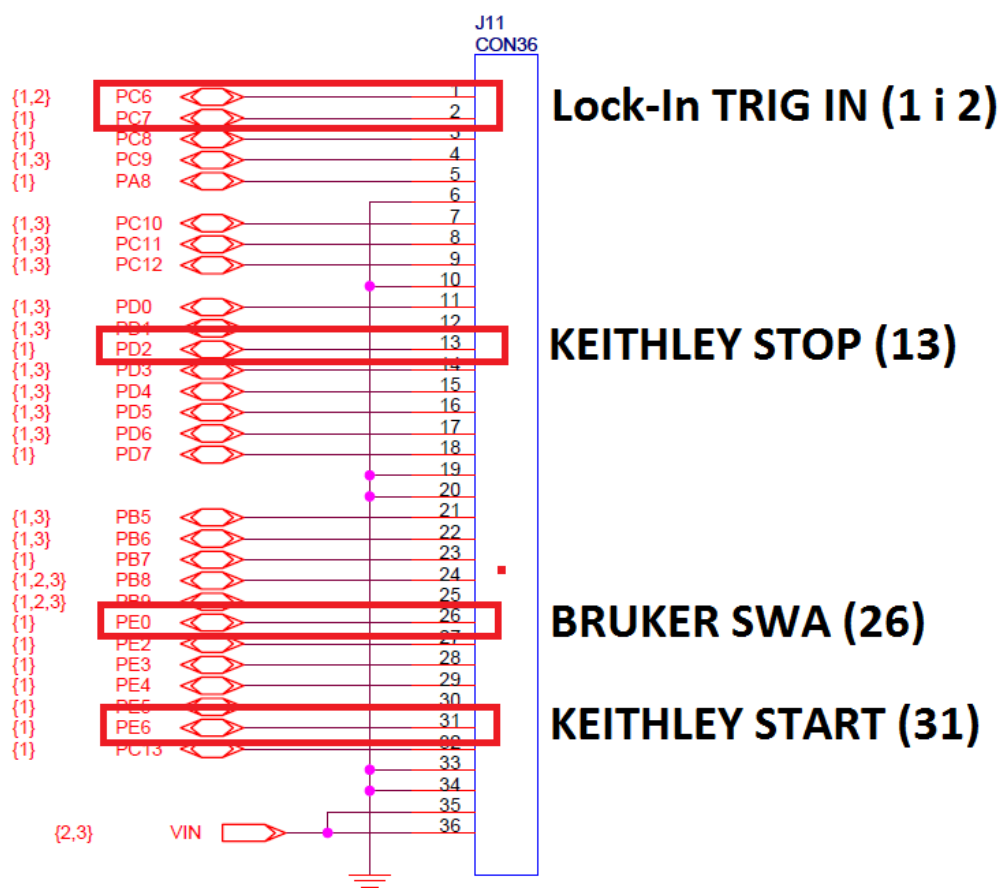
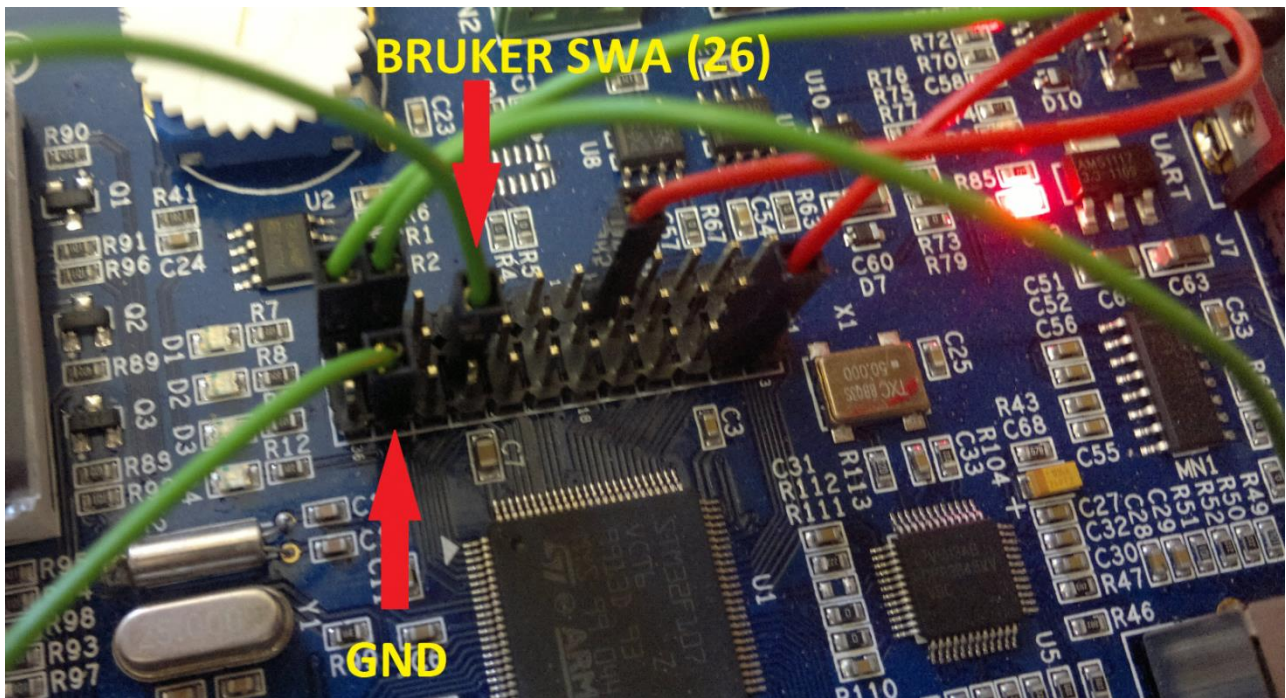
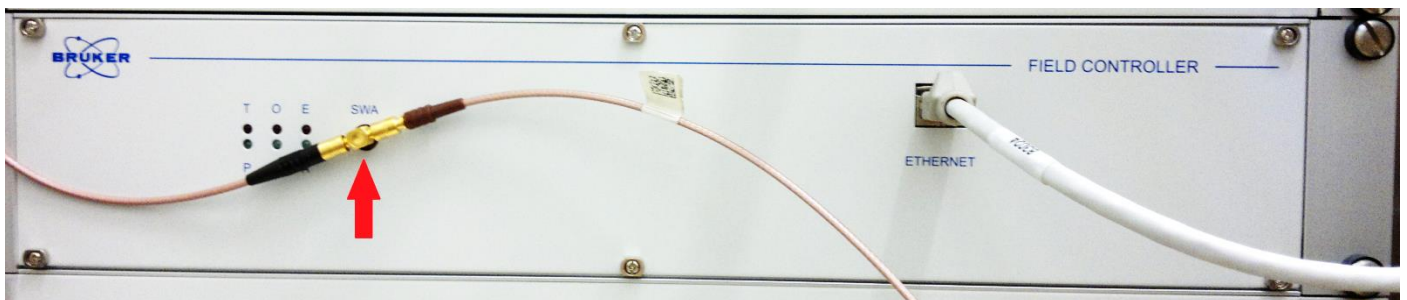

Figure 2. All ports used in the system.
Figure 3. Wiring the SWA output to the PE0 pin of the microcontroller.
Figure 4. The SWA output on the spectrometer's console.
- 2) Connect the SWA (sweep advance) output, which is located in the "Field controller" module of the spectrometer's console to the **PE0 (J11 26)** pin of the microcontroller. GND of the plug connects to one of the microcontroller's GNDs, for example to the pin J11 33. The pin PE0 and all other pins used in the system are presented in figure 2. Figure 3 presents the SWA output connected to the PE0 (J11 26) pin. Figure 4 shows the location of the SWA in the spectrometer's console.